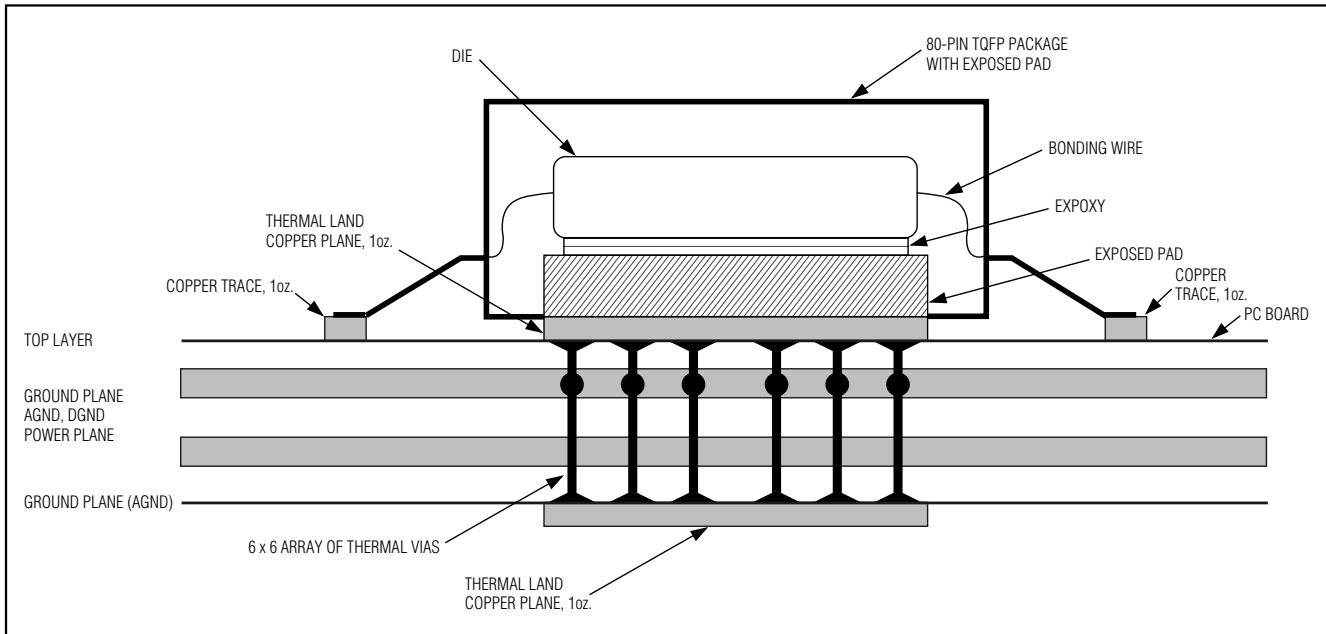

Figure 10. MAX107 Exposed Pad Package Cross-Section
tion-case (θ_{jc}) resistance of $\approx 1.26^\circ\text{C}/\text{W}$. In this package, the data converter die is attached to an exposed pad (EP) leadframe using a thermally conductive epoxy. The package is molded in a way, that this leadframe is exposed at the surface, facing the printed circuit board (PC board) side of the package (Figure 10). This allows the package to be attached to the PC board with standard infrared (IR) flow soldering techniques. A specially created land pattern on the PC board, matching the size of the EP (7.5mm x 7.5mm) does not only guarantee proper attachment of the chip, but can also be used for heat-sinking purposes. Designing thermal vias* into the land area and implementing large ground planes in the PC board design, further enhance the thermal conductivity between board and package. To remove heat from an 80-pin TQFP package efficiently, an array of 6 x 6 vias ($\leq 0.3\text{mm}$ diameter per via hole and 1.2mm pitch between via holes) is required.